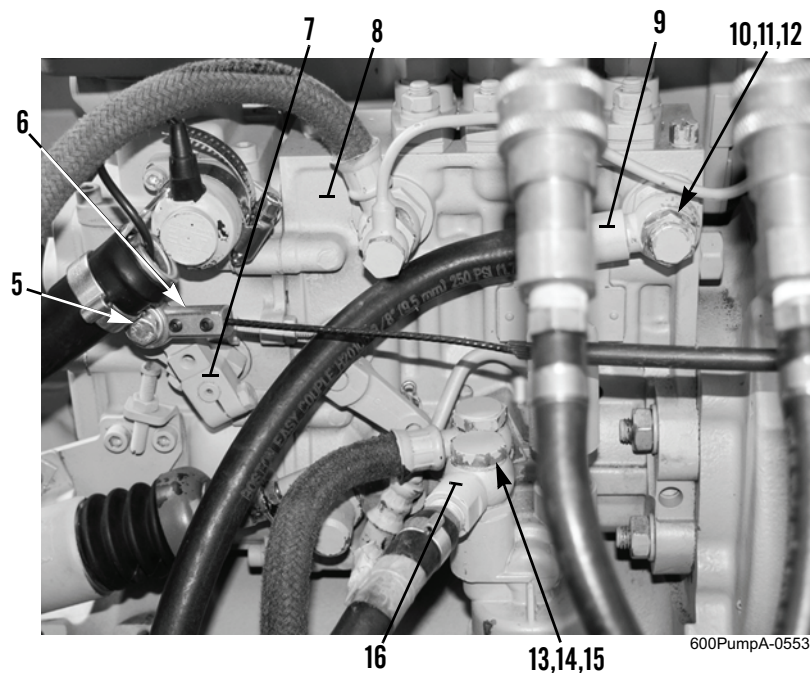

Figure 18. Throttle and Fuel Line Connections.
14. Install new sealing washer (Figure 18, Item 15), fuel line (Figure 18, Item 16), new sealing washer (Figure 18, Item 14), and fluid passage bolt (Figure 18, Item 13) on fuel injection pump (Figure 18, Item 8).
15. Install new sealing washer (Figure 18, Item 12), fuel line (Figure 18, Item 9), new sealing washer (Figure 18, Item 11), and fluid passage bolt (Figure 18, Item 10) on fuel injection pump (Figure 18, Item 8).
16. Install rod (Figure 18, Item 6) and bolt (Figure 18, Item 5) on throttle arm (Figure 18, Item 7) at fuel injection pump (Figure 18, Item 8).